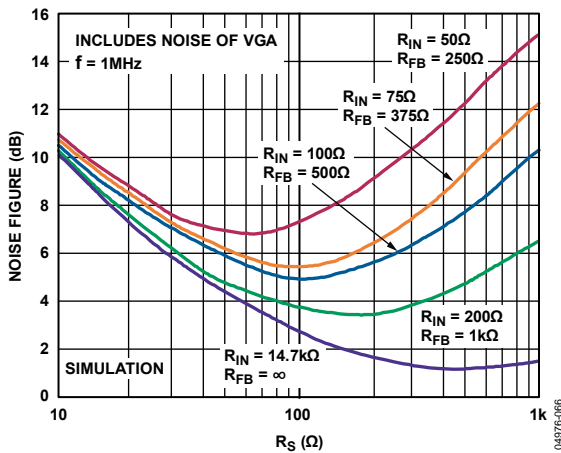

Figure 56. Simulated Noise Figure vs. R_s for Various Fixed Values of R_{IN} , Actively Matched
Figure 56 shows the simulated noise figure (NF) vs. source resistance, and various values of preamplifier R_{IN} from 50 Ω to 14.7 k Ω , the value seen looking into the PIPx pins when $R_{FB} = \infty$. As shown in the figure, the minimum NF for $R_{IN} = 50 \Omega$ is slightly less than 7 dB. Note that, for this preamplifier, the NF is optimized for the R_{IN} from 50 Ω to 200 Ω ; for $R_{FB} = \infty$, the minimum NF is at approximately 480 Ω . This optimum noise resistance can also be calculated by dividing the input referred voltage noise by the current noise.